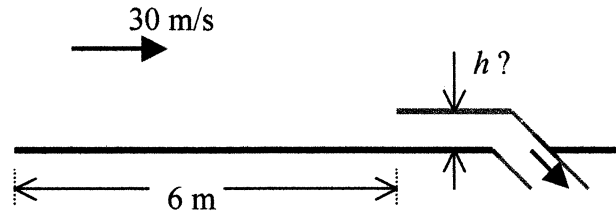

Fig. P7.37
**7.37** Air at 20°C and 1 atm flows past a long flat plate, at the end of which is placed a narrow scoop, as shown in Fig. P7.37. (a) Estimate the height  $h$  of the scoop if it is to extract 4 kg/s per meter of width into the paper. (b) Find the drag on the plate up to the inlet of the scoop, per meter of width.